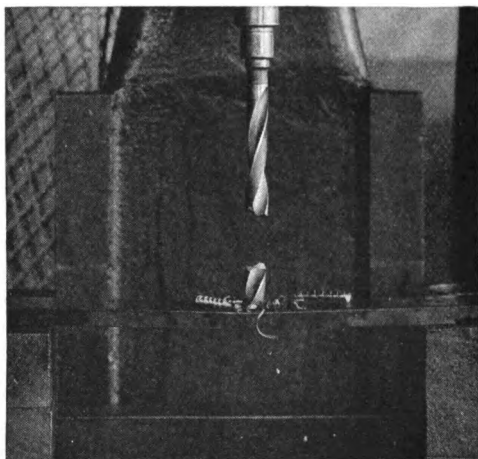

Fig. 26 — The Result of Spring
- 100 The same results come about from faulty setting up of the work. Underneath the drill, the work should be absolutely rigid and free from spring. Otherwise breakage is almost sure to result. (Fig. 26.)